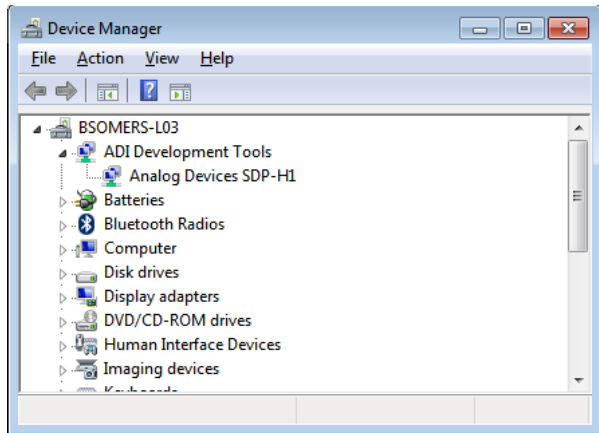

Figure 11. Device Manager Window
3. If the **EVAL-SDP-CH1Z** driver software is installed, and the **EVAL-SDP-CH1Z** board is connected to the PC correctly, **Analog Devices SDP-H1** appears nested under the **ADI Development Tools** in the **Device Manager** window, as shown in Figure 11.